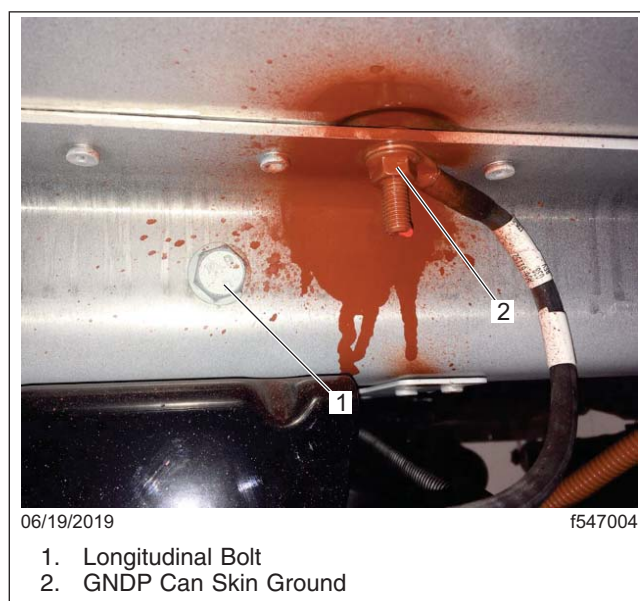

Fig. 3, Cab Skin Ground and Longitudinal Bolt
9. Relocate GNDP cab skin ground (**Fig. 7** on page 9) to the longitudinal bolt near the floor stud. This will require replacing the original GNDP ring eye terminal (23-12446-063) with a 6 AWG 3/8-inch ring eye cable end (p/n 23-11194-506) that fits on the 10-mm longitudinal bolt; the left cab splash shield will need removed for this repair. Remove the longitudinal bolt, and clean the cab skin around longitudinal bolt as needed. Install the GNDP ground cable and longitudinal bolt, and torque to 33 lbf-ft (45 N-m). See **Fig. 3**.